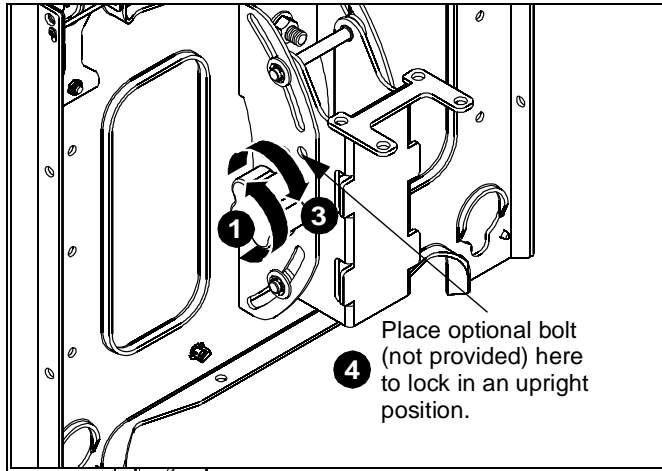

Figure 11
1. Turn knob counterclockwise on back of head assembly to loosen the tilt. (See Figure 11)
3. Turn knob clockwise to tighten display on head assembly. (See Figure 11)
4. If leaving the display in a straight upright position, it is recommended that a bolt (not provided) be placed through the head assembly (See Figure 11) to lock the display into the upright position.